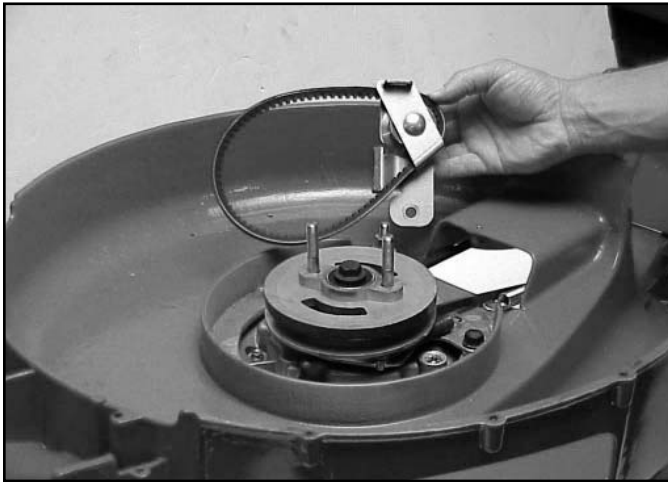

Fig 211
8. Lift the brake assembly and blade drive belt from the mower (Fig. 211).